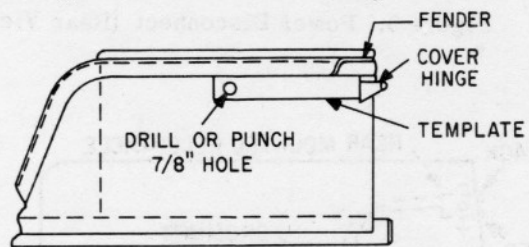

Figure 2. Battery Box (Left Side)
NOTE: If the 7/8-inch hole is pre-punched as shown in Fig. 2, it may not be necessary to remove the batteries. Wires can be "fished" through the frame opening with a long, stiff, wire inserted from below the frame.
5. Locate and punch or drill a 7/8-inch hole in the left side of the rear battery box using the template provided as shown in Fig. 2. Remove any metal chips from inside the battery box.